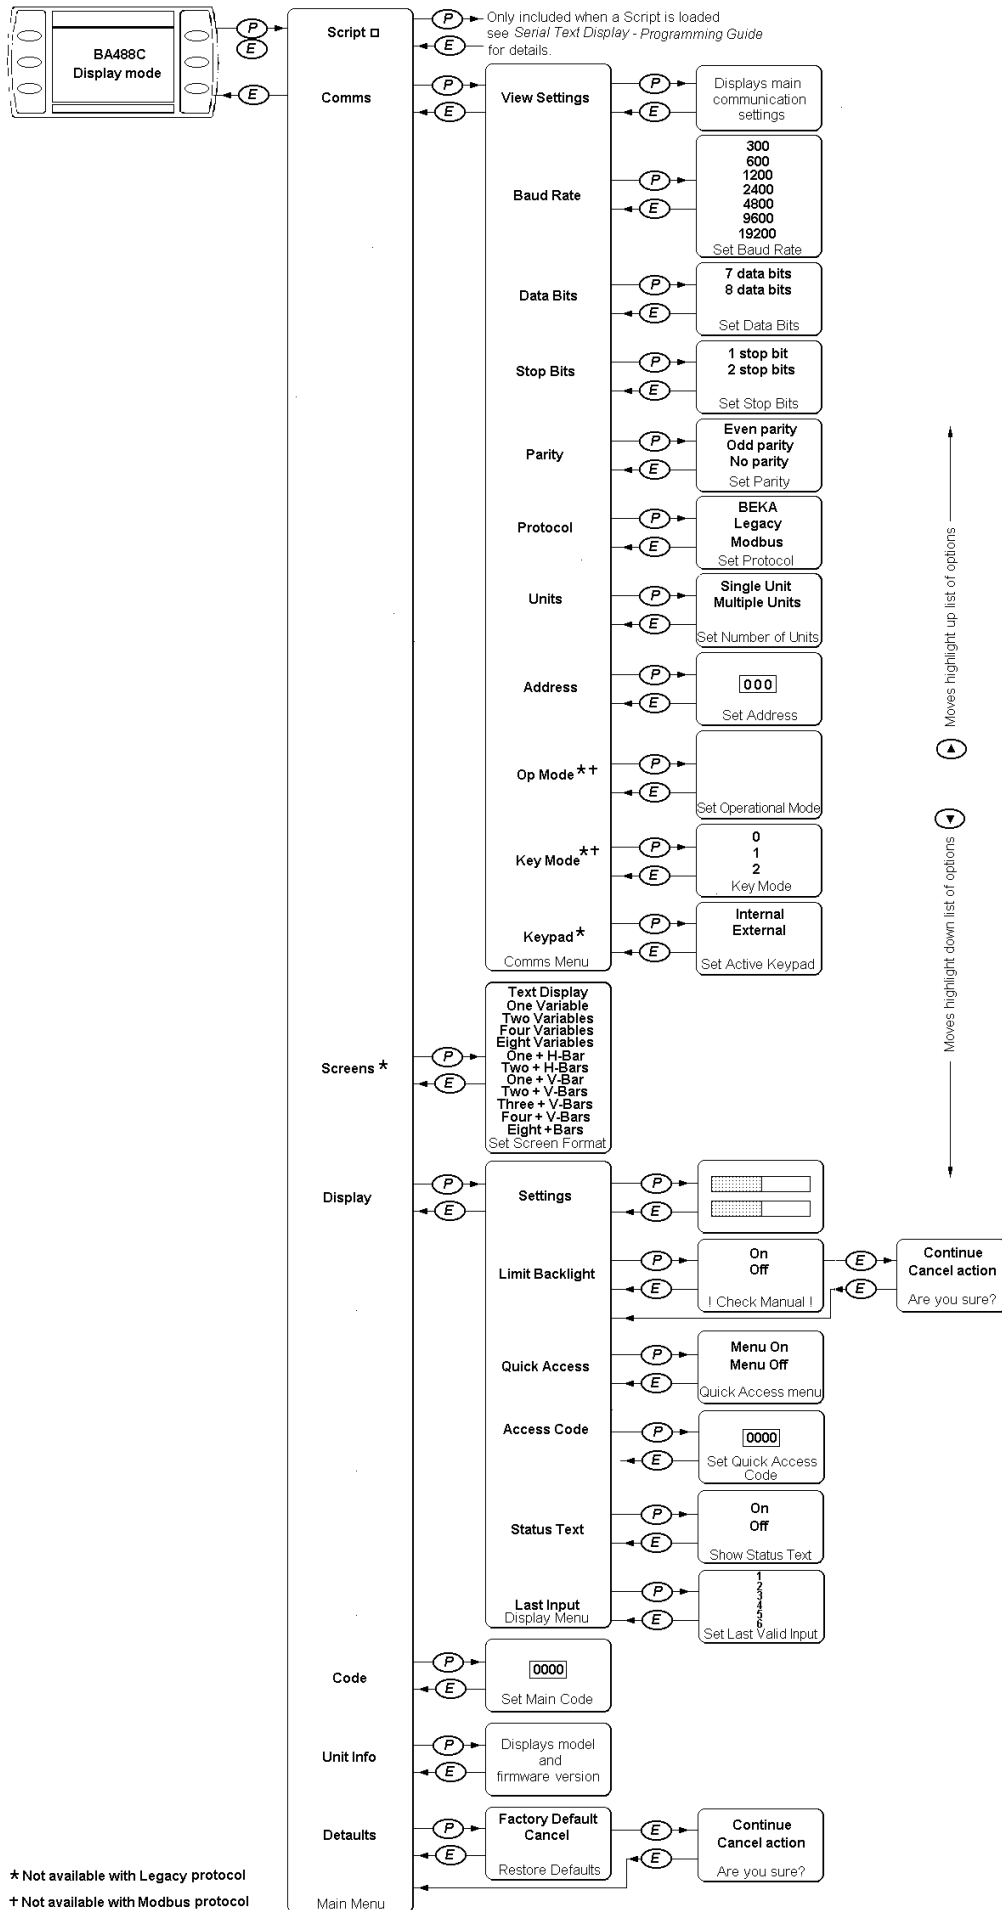

Fig 10 Structure of Configuration Menu
The BA488C is configured via four of the front panel push-buttons. All the configuration functions are contained in an easy to use menu shown in Fig 10. Where necessary the sub-menus contain on-screen prompts to guide the user through each adjustment.
This section provides a brief explanation of each configurable function and should be read in conjunction with Fig 10.
4. To set the instrument's basic communications parameters enter the configuration menu by pressing the *P* and *E* push-buttons simultaneously. Fig 10 shows the menu structure and navigation.